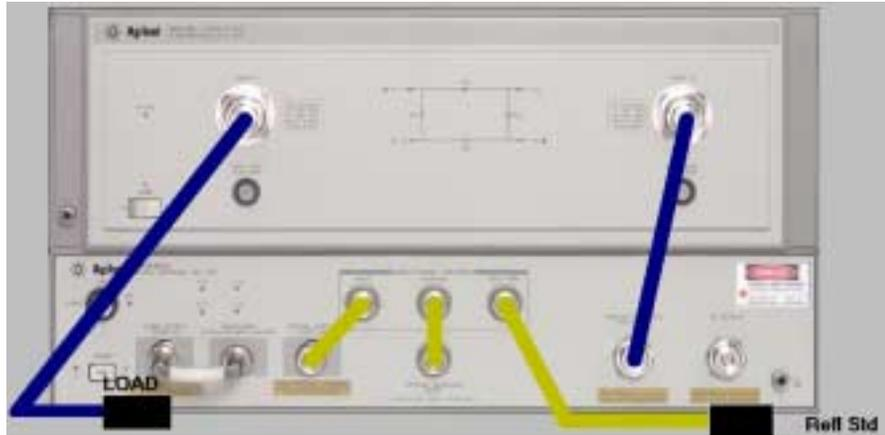

Figure 4-13. Connections for O/E Bandwidth Reflection Response Calibration (Std1), and O/E Bandwidth Reflection Response & Isolation Calibration (Std1, Std2)
- Pre-Conditions:** The connections in Figure 4-13 have been made.
- Pre-Conditions:** The connections in Figure 4-13 on page 4-54 have been made on the instrument.
- Pre-Conditions:** OEBWNRFPRESPNISOL_STD1 has already been performed. The connections in Figure 4-13 on page 4-54 have been made on the instrument.